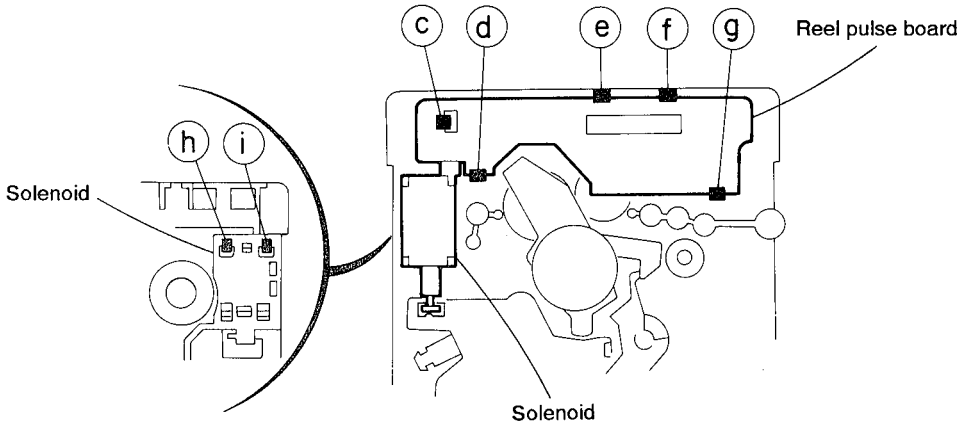

Fig.5-34
■ Removing the Reel Pulse P.C. Board and Solenoid (See Figs. 5-34)